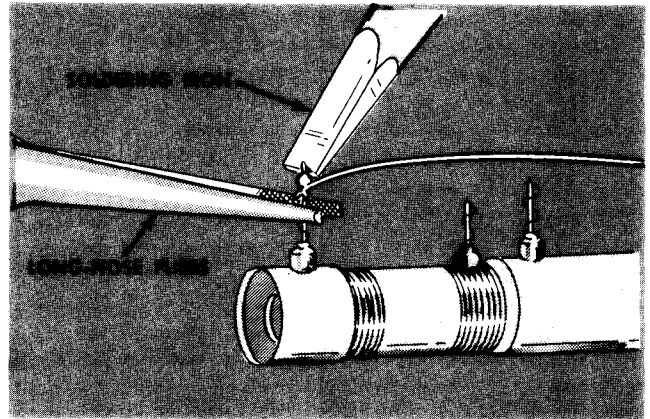

Fig. 4-2. Use long-nose pliers to absorb excess heat when soldering to small or short-lead components.
1. Use long-nose pliers to act as a heat shunt between the soldering point and the component. See Fig. 4-2.